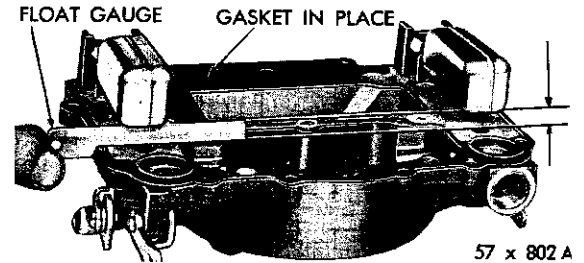

Fig. 46—Measuring the Float Height
(1) With the air horn inverted, the air horn gasket in place and the float needle seated, slide the float gauge Tool T109-106 ($\frac{7}{32}$ ") between the top of the float (at outer end) and the air horn gasket, as shown in Figure 46.
(2) Measure the other float in the same manner. If an adjustment is necessary, bend the float arm using Tool T109-22, until correct clearance has been obtained. After bending arm, recheck the float alignment.